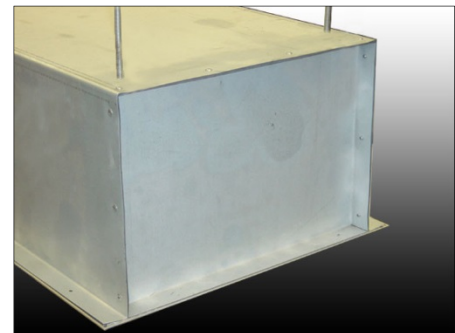
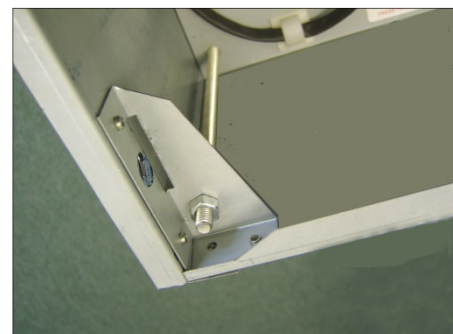

Fig 2
Fig 3
Step 2 Fix M8 threaded rods (not supplied) through the 2 holes at each end in the top casing (see Fig 2). Feed the rods through the casing and attach to fixing brackets near the bottom of the unit (see Fig 3, looking up into the air curtain). Use M8 lock-nuts either side of fixing brackets to secure hanging rods.